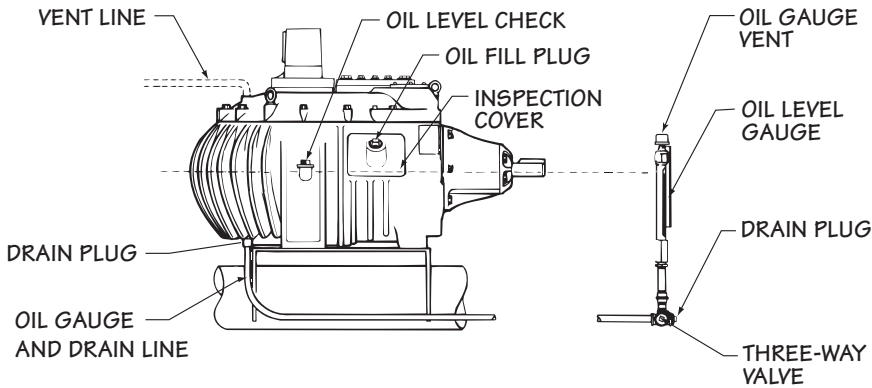

Figure 2 Oil Gauge and Drain Line (Series 36 Geareducer is illustrated)
Drain the Geareducer oil by removing the drain plug. See **Figure 2** for location. If equipped with an external dipstick/oil level gauge, remove the drain plug at that location, and drain the entire system.
1. Install oil at the opening at the Geareducer inspection cover. Full is the center of the sight glass. If oil is **not** visible in the sight glass then oil needs to be added. See **Figures 2** and **3** Install plug.